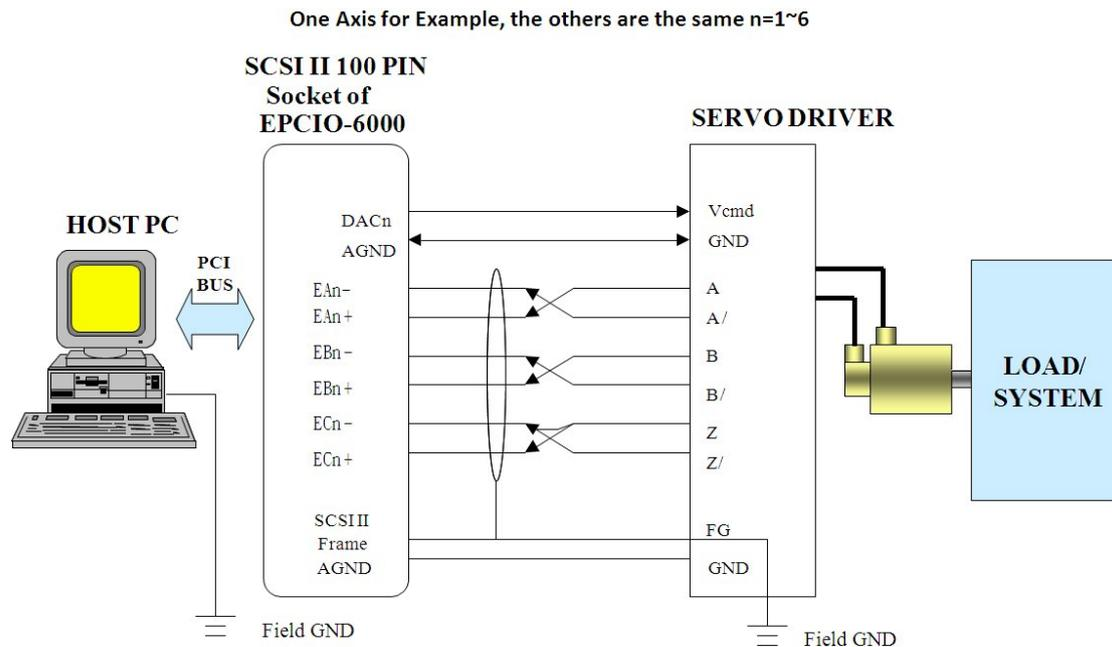

Fig. 3-4
- The motor encoder signal of the SERVO DRIVER (A/B/Z signals) must be connected back to the EPCIO-6000 in differential form (as shown in the diagram Fig. 3-4). It is recommended that the three sets of signals A , A/, B , B/, and Z , Z/ are suggested using twisted-pair cable to reduce the common mode noise. In addition, as illustrated in the diagram a shield net is used to reduce the interference of electromagnetic.
- Connect one side of the shield net to the external housing of SCSI II 100PIN (connected to PC frame ground) and the other side to SERVO DRIVER Field Ground (FG). Then make sure frame ground of both PC and SERVO DRIVER are connected together to the same field GND.